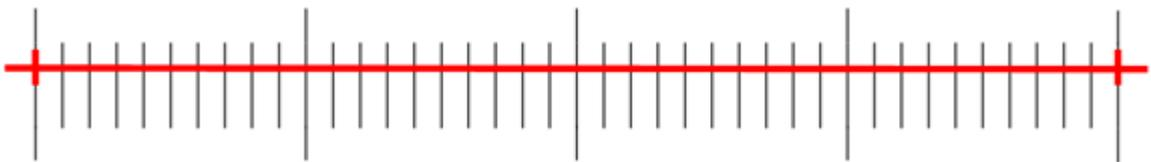

Figure 12-8
- The minimum range of the selected micrometer is 0.01 mm (10 micron). Figure 12-8 shows the image under a 10x objective lens. At this time, the *Magnification* is set to 10x, the *Unit* is marked as μm , and the *Length* is set to 0.